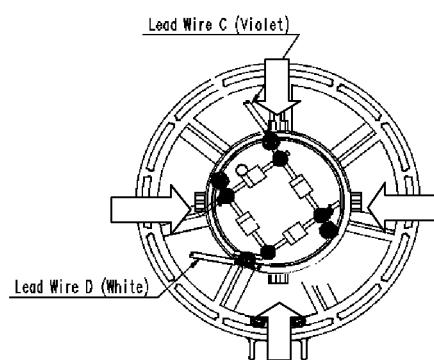

Figure 4
1. Assemble Heater B/K into slots of Motor B/K as shown in Figure 4.